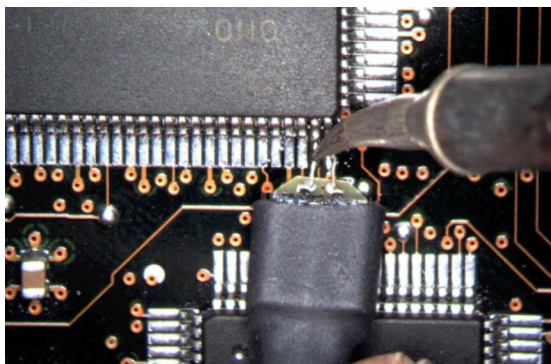

Figure 49 Positioning Wires
- 5 Position the probe head wires on the DUT leads and quickly re-flow the solder as shown in Figure 49.